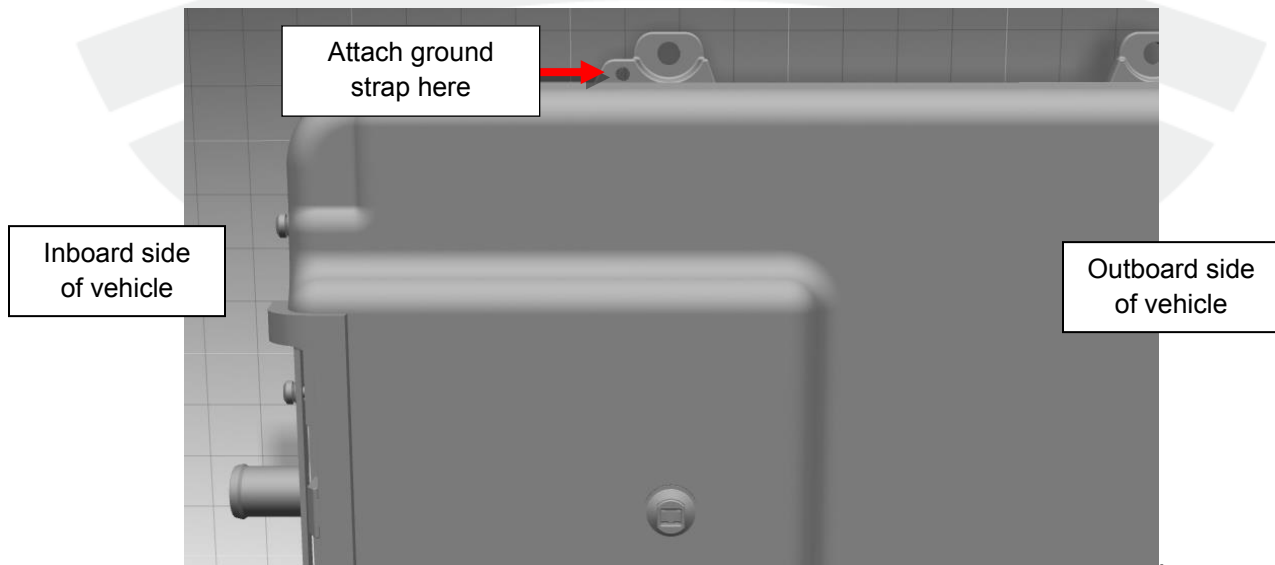

Figure 9
20. Secure the new ground strap to the small bolt hole at the inboard rear of the new slave charger (torque 7 Nm) (Figure 9).